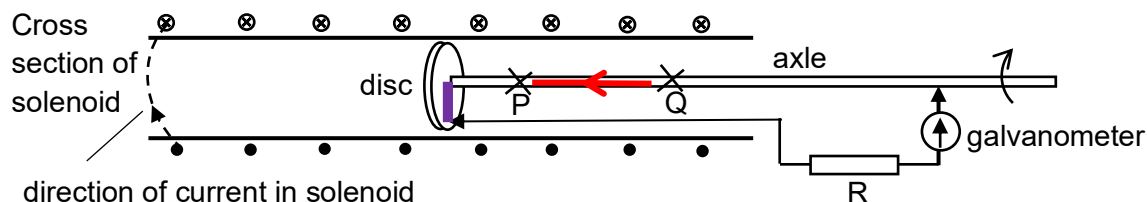

Fig. 6.1
- 6 Fig. 6.1 shows a long solenoid which has a small copper disc mounted at its centre.
The disc spins on a conducting axle which lies along the axis of the solenoid. The solenoid is connected in series with a d.c. supply and the direction of the current in the solenoid is as shown in Fig. 6.1. One end of the resistor is connected to the rim of the disc through brushes. The other end is connected to a galvanometer.
- (a) (i) Indicate the direction of the induced current between point P and Q with an arrow on Fig. 6.1. [1]